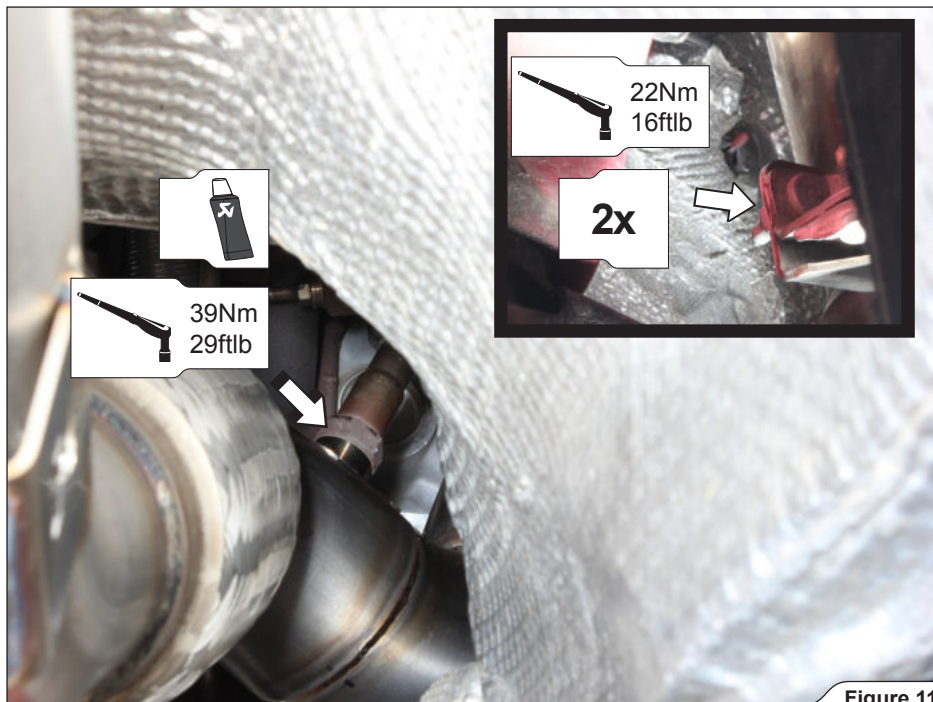

Figure 11
2. Install the lambda sensor and tighten the Down Pipe's bracket, using stock nuts (**Figure 11**).